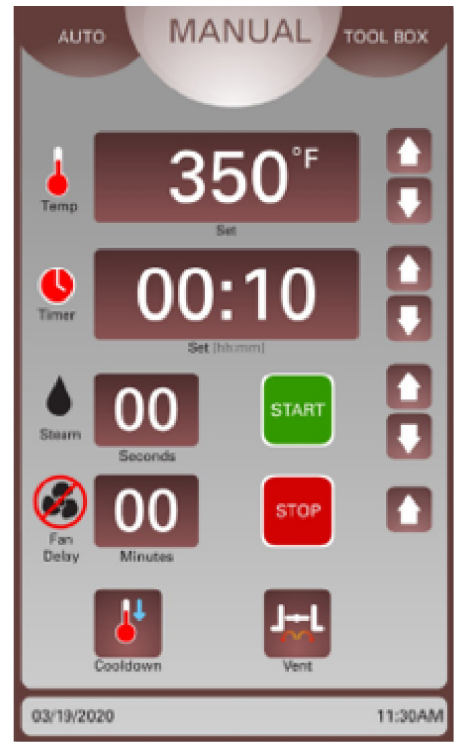

Fig. 35
1. On the user display, touch the MANUAL button at the top. The Classic Manual Mode should display (Fig. 35).